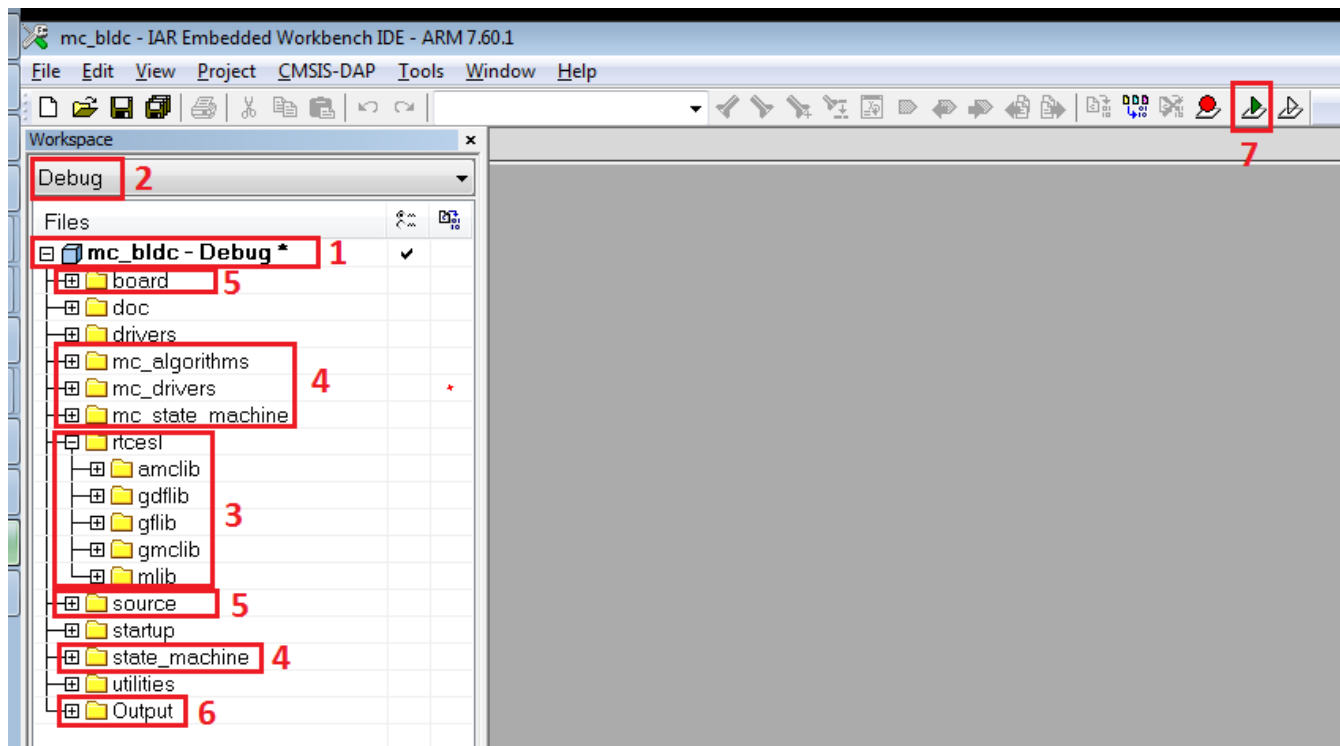

Figure 13. IAR Embedded Workbench IDE
The project opened in IAR Embedded Workbench is fully configured and includes all source and header files required by the application (such as the startup code, clock configuration, and peripherals’ configuration). You can choose from two compiling conditions (“debug” or “release”) shown in Figure 13 point 2. Each of the two conditions has its own setting:
The source code shown in Figure 13 includes these source files and folders:
- Point 6—shows the output file generated by the compiler, and is ready to use with the default debugger (P&E Micro OpenSDA). This debugger is set as default for the Tower System boards, and can be changed in the project options by right-clicking Point 1, selecting “Options”, and clicking “Debugger”. Start the project debugging by clicking Point 7 (Figure 13).